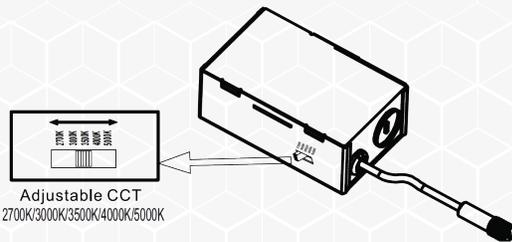

Fig.5
2. Select desired colour temperature using the selector button at the back of the fixture (preset to 3000K - warm white. (see Fig.5)